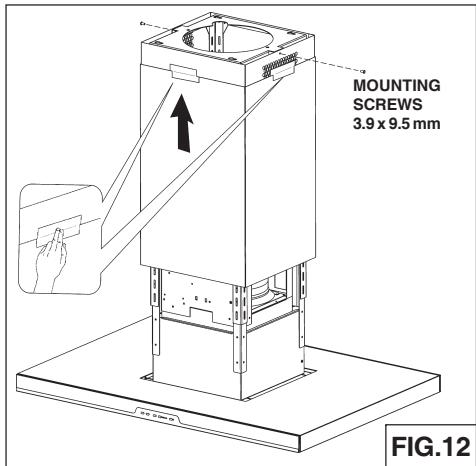
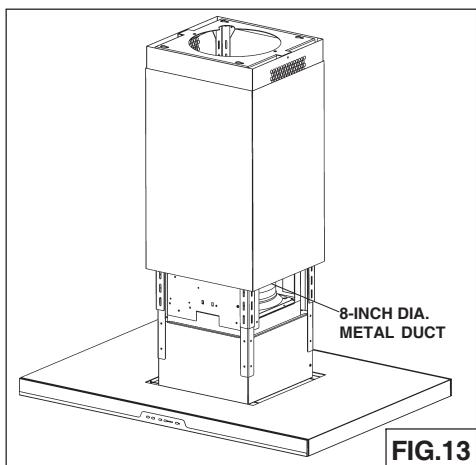

FIG.12
FIG.13
2. Attach upper flue temporarily to the support frame with the mounting screws 3.9x9.5 mm, slide the lower flue onto the support frame and tape to hold in place (Fig.12).
3. Mount the hood to the ceiling using the (4) previously installed 6x70mm screws. Tighten these screws. Install (2) additional 6x70mm screws as shown in the illustration. Make sure all (6) screws are secure.
4. Secure the hood to the ceiling and install the (2) additional screws (6x70mm).
5. Use **8"** round metal duct to connect the duct collar on the hood to the ductwork above (Fig.13).